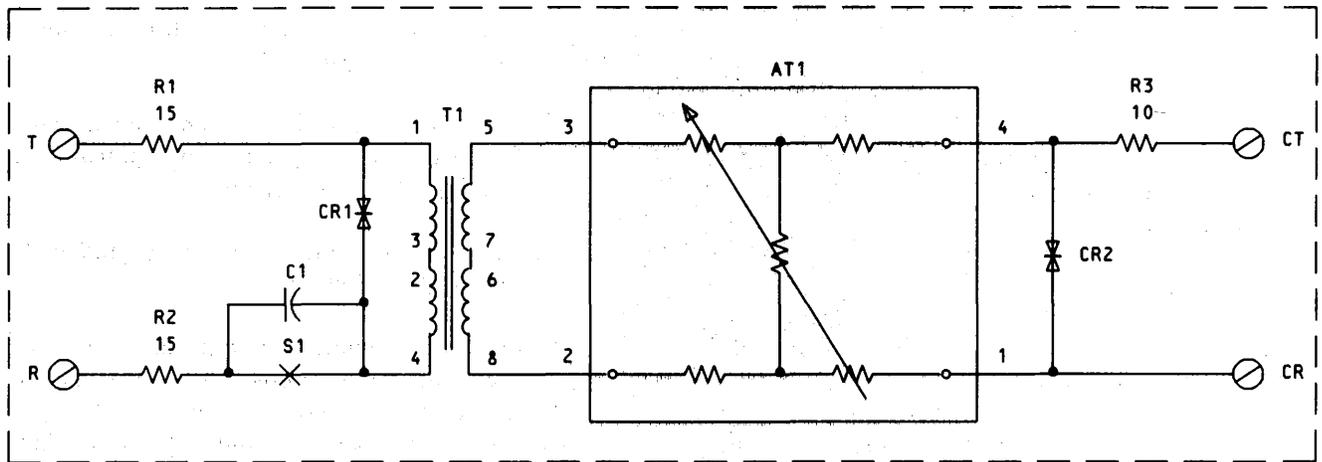

Fig. 6—CSU Schematic Diagram
2.08 General: The 150A CSU is a passive unit designed to provide an interface between 2-wire voiceband data equipment and a 2-wire PL service or a polled network service. The CSU (Fig. 6) consists of an isolation transformer (T1), attenuator AT1, resistors R1 through R3, and diodes CR1 and CR2, to provide a balanced termination, current surge protection, hazardous voltage protection, dc isolation, and signal level adjustment. In addition, capacitor C1 and switch S1 are provided to aid in installation and maintenance of the CSU in a polled network service.